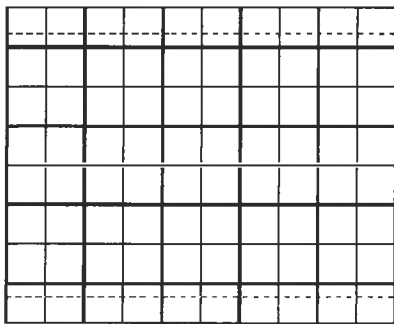

Figure L35-7
9. A square wave is made by a clock signal occurring at a steady frequency. Draw a representation of a square wave in the oscilloscope face presented in Figure L35-7.